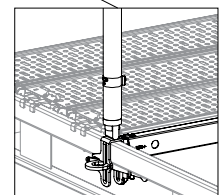

Fig. A1.03c
1. Place Ledger-to-Ledger Coupler UHA (15) on the Ledger UHV 150 (4), do not yet secure wedges for alignment. (Fig. A1.03c)
2. Insert Standards UVR (6).
3. Connect Base Standards UVB (2) and Ledger-to-Ledger Couplers UHA (15) with Standards UVR (6) by means of Locking Pins (17). (Fig. A1.03c)